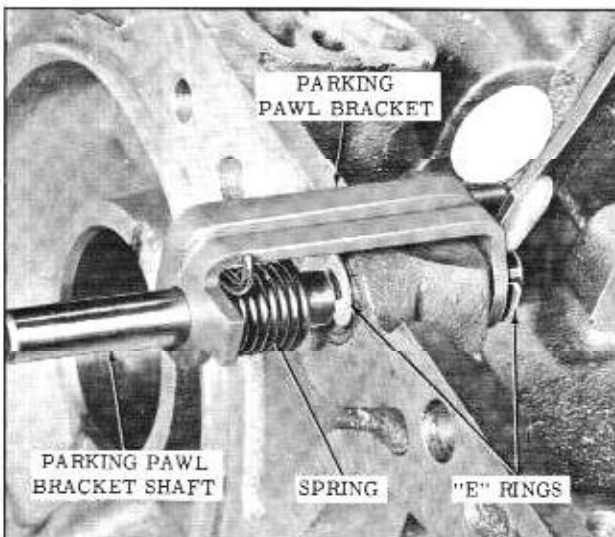

Fig. 3-71 Removing Parking Pawl Bracket
4. If necessary to remove parking pawl bracket shaft, remove two bracket shaft "E" rings. (Fig. 3-71)